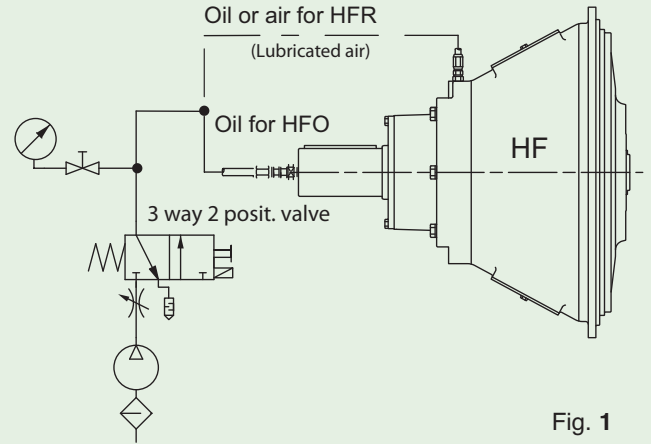

Fig. 1
- By customer hydraulic circuit (fig.1)